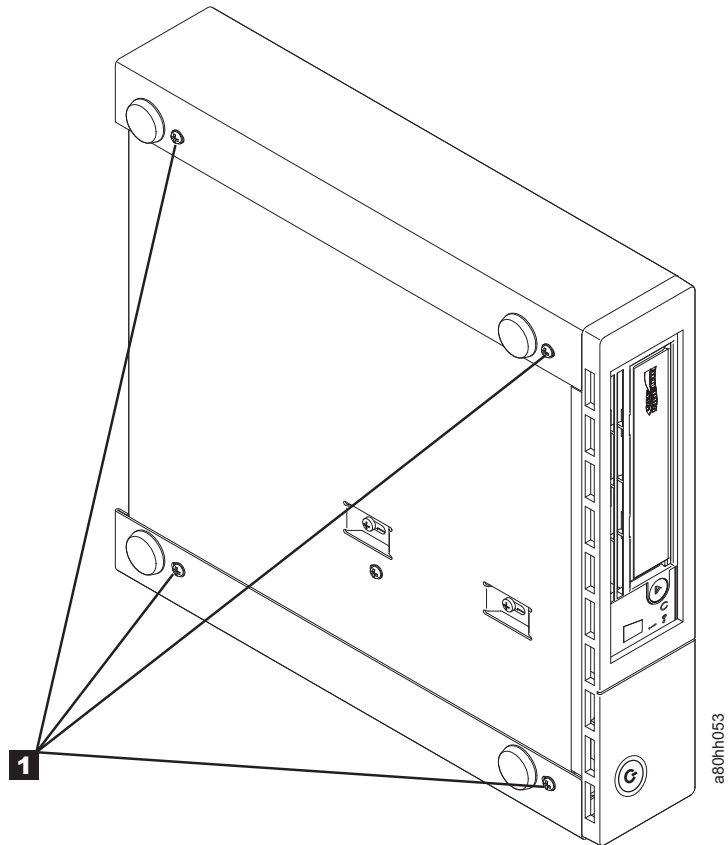

Figure E-1. Removing the screws that secure the cover and internal drive
4. Remove the 4 screws (**1** in Figure E-1 on page E-2) by the feet.